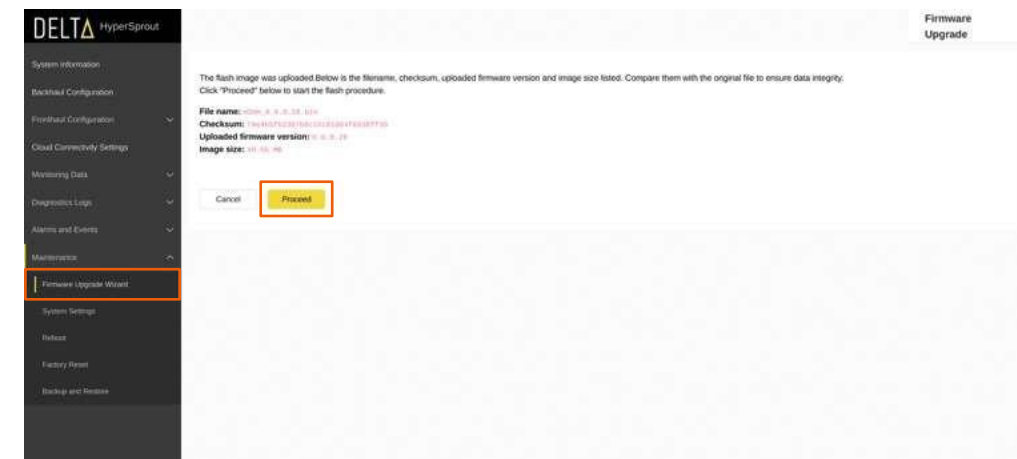

Figure 67: Firmware Upgrade Finish
- b. Upon successful image upload, the user will be redirected to the *Firmware Upgrade* page as shown in *Figure 67*. This page will provide details of the upload image and will provide the user with a *Proceed* or *Cancel* button selection. The user may click the *Proceed* button to upgrade the device, as shown in *Figure 67*.